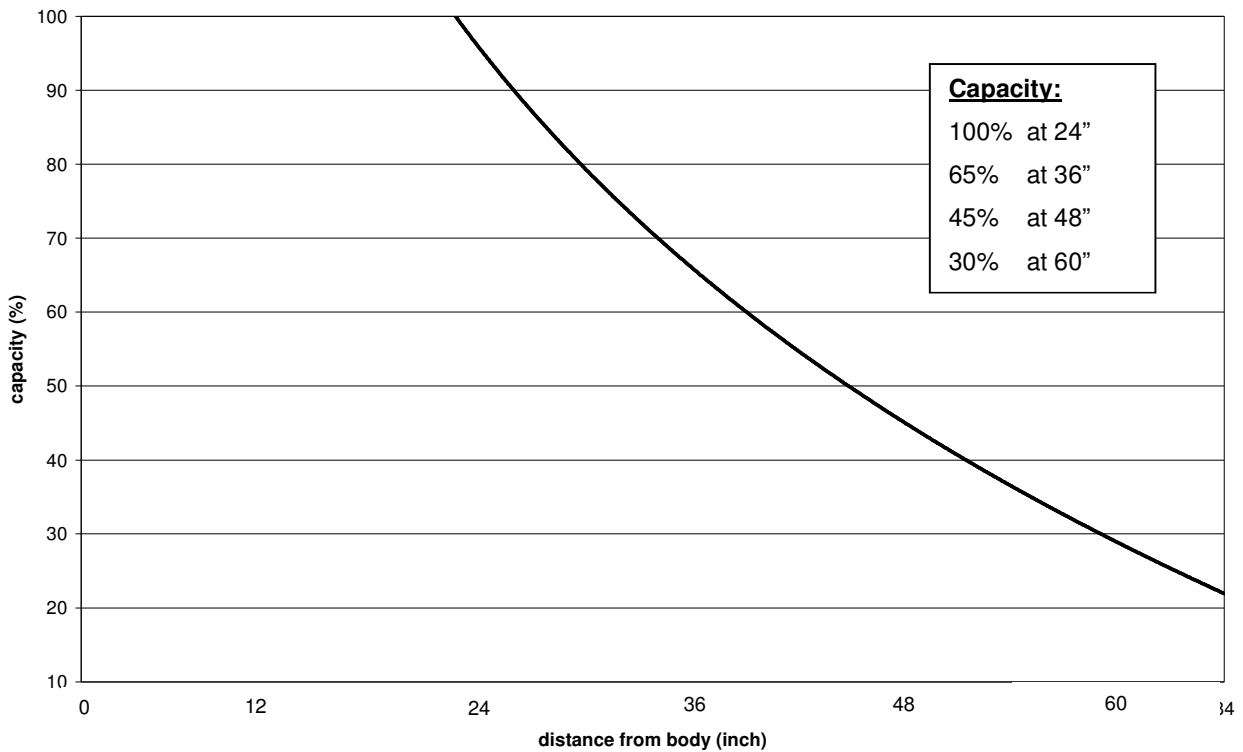

Figure 3: Load Diagram (ILQ 22)
- Never place drive-over plates or link bridge on the platform tip without supporting the tip. The platform tip must always be supported. (Fig. 3)